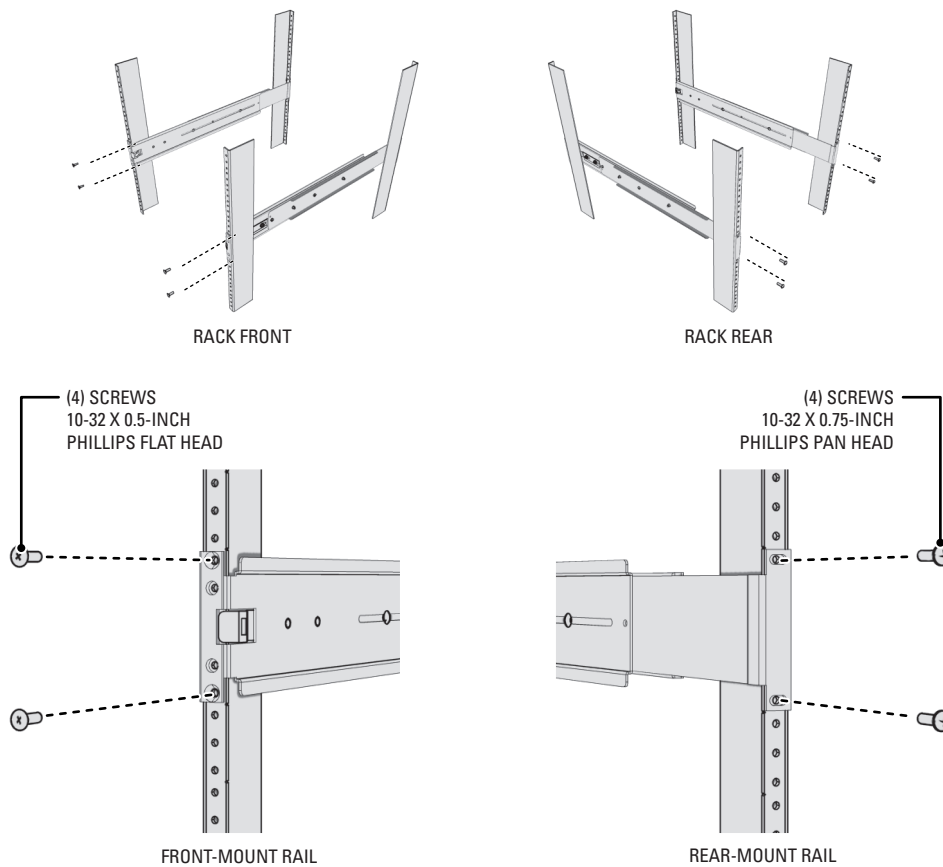

Figure 12. Attaching the Support Rails
6. Attach one support rail assembly to the equipment rack in the desired location (refer to Figure 12):
7. Repeat step 6 for the second support rail assembly (refer to Figure 12).